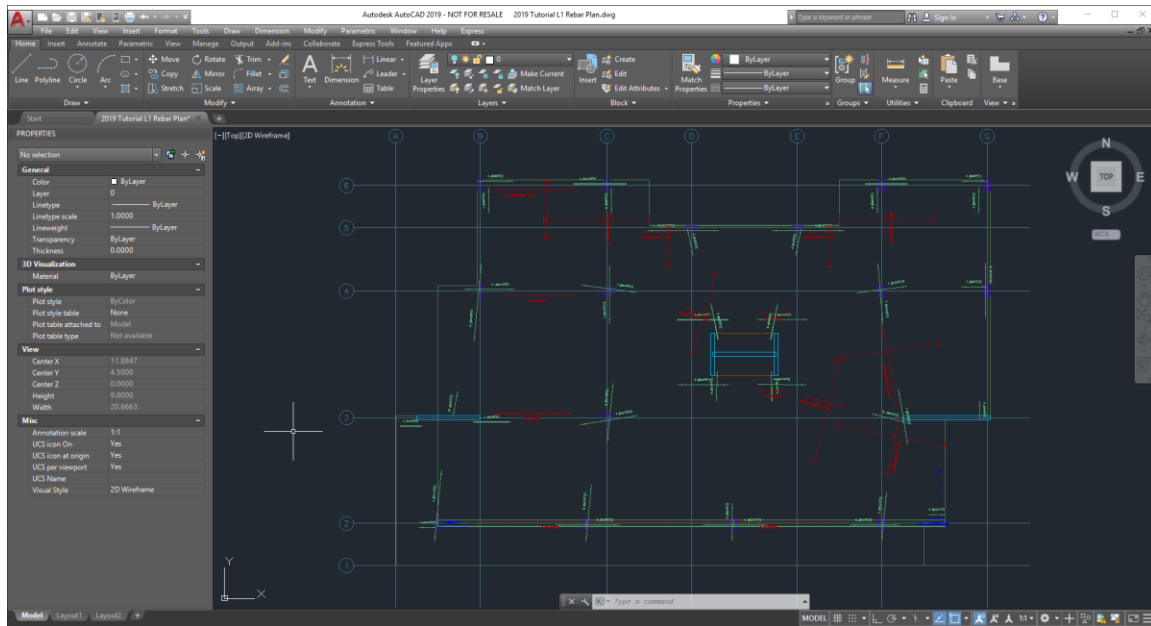

Figure 9-117
- Opening the drawing the user should have a CAD file that looks similar to the CAD file shown in **FIGURE 9-117**.